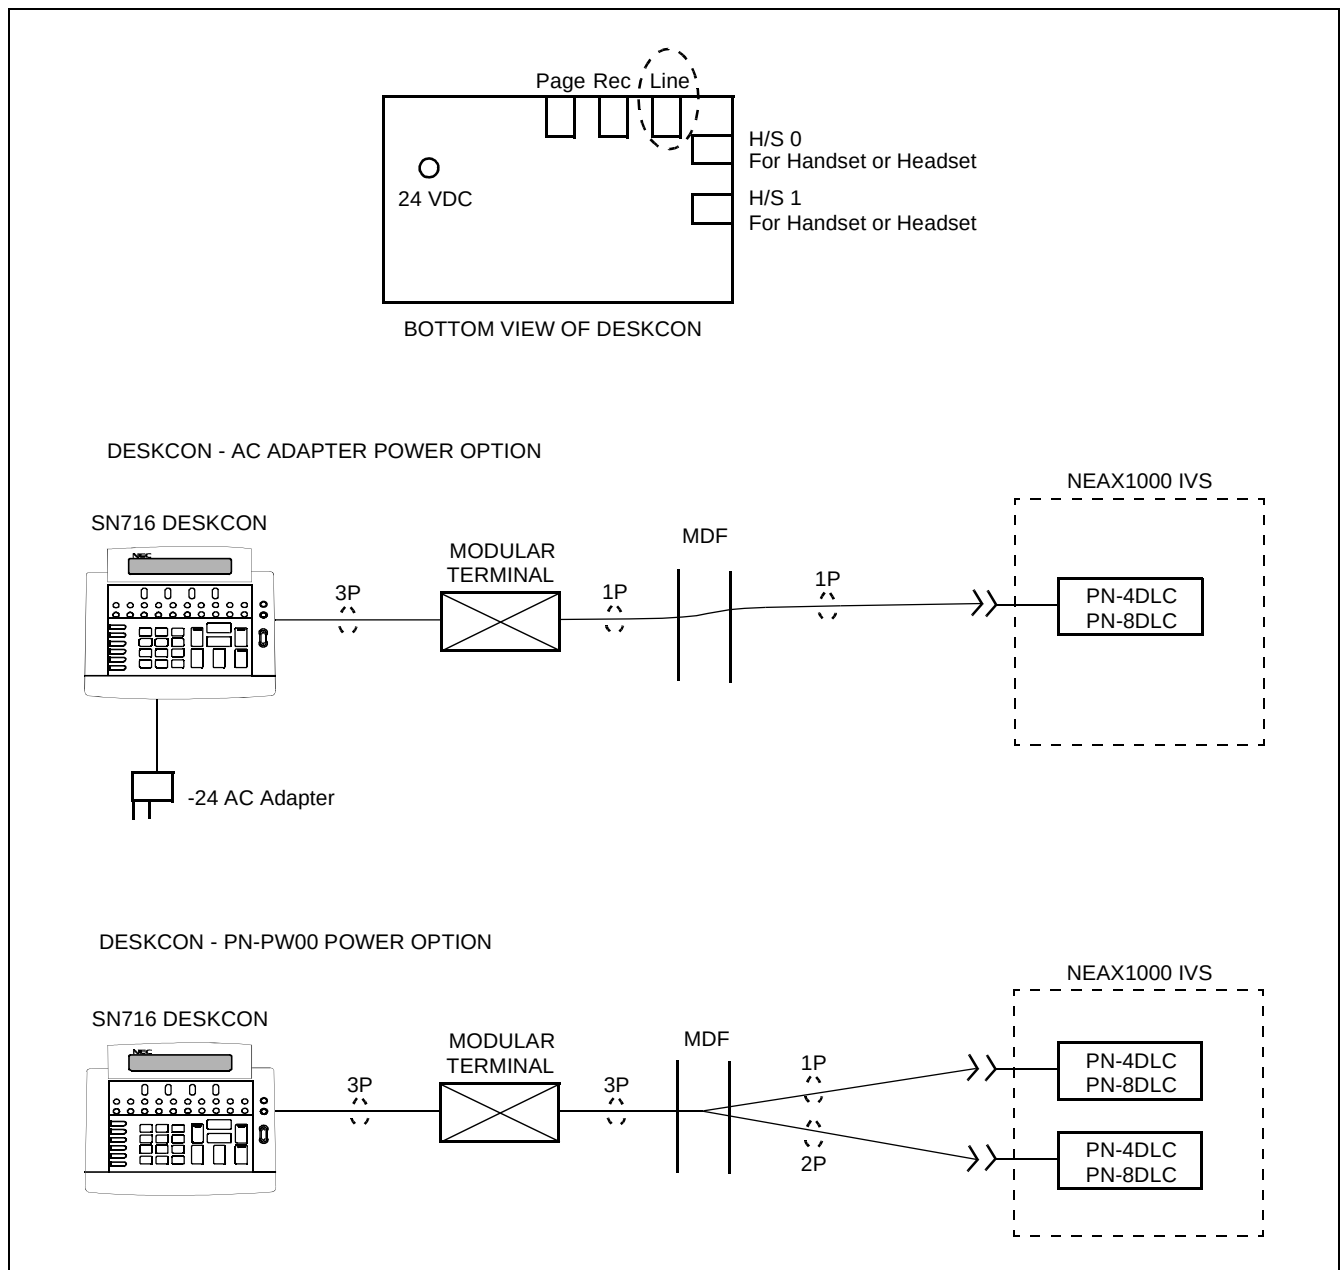

Figure 007-39 SN716 DESKCON Cable Connection
STEP 2: Plug the line cord from the modular jack into the modular jack located on the bottom of the DESKCON, labeled “Line”. This interface is a 6 conductor (3 pair), modular jack. The inner 1 pair is for signal and the outer 2 pairs are for power supply (when connected via PN-PW00). See Figure 007-39.